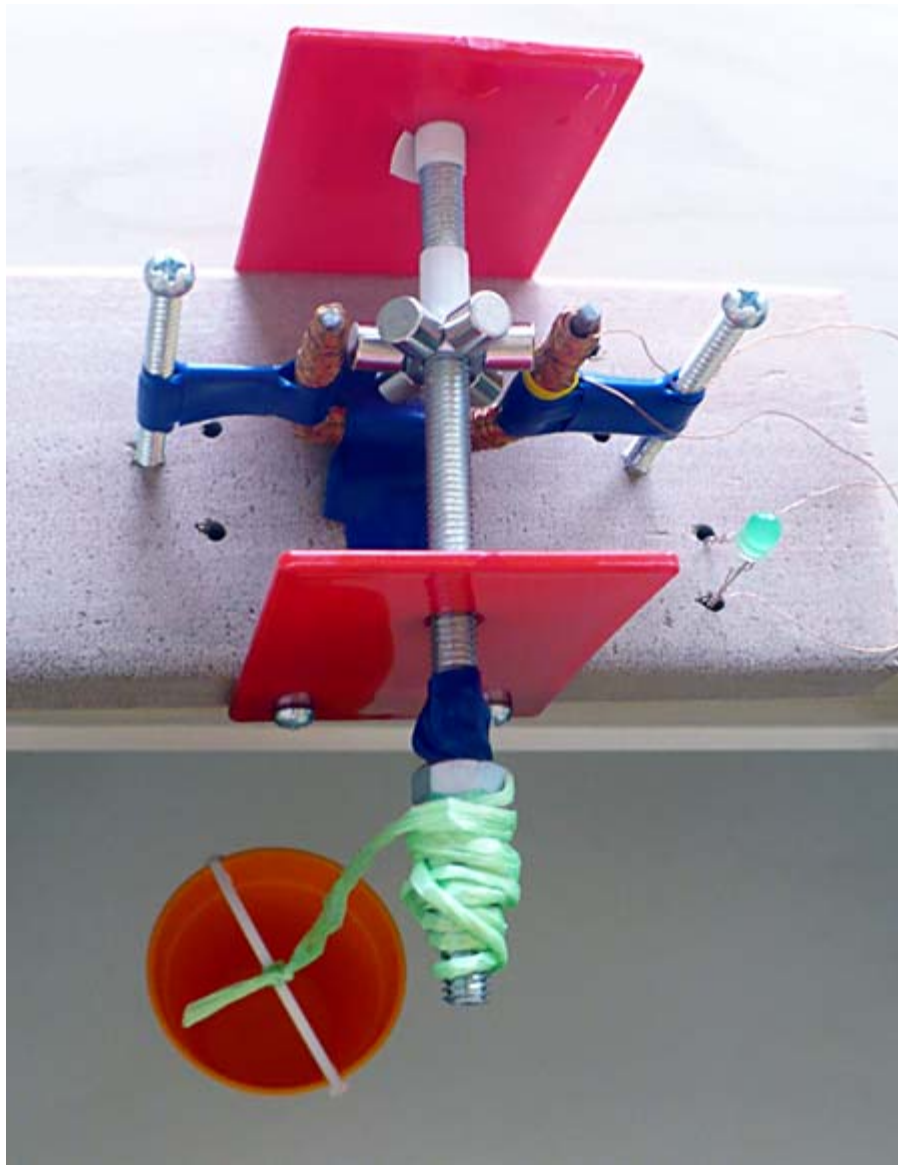

Figure 17. Electric generator using a bucket in which mass can be placed to create rotation.
3. Attach the other end of the string securely to the shaft using the hex nut placed outside the red panel, as shown in Figure 17.
- d. Make sure the string does not slip, but winds up around the shaft if you turn the shaft, as shown in Figure 17.
4. Place the generator at the edge of a table, as shown in Figure 17, above. This allows the bucket to freely roll down, creating a rotation of the shaft.